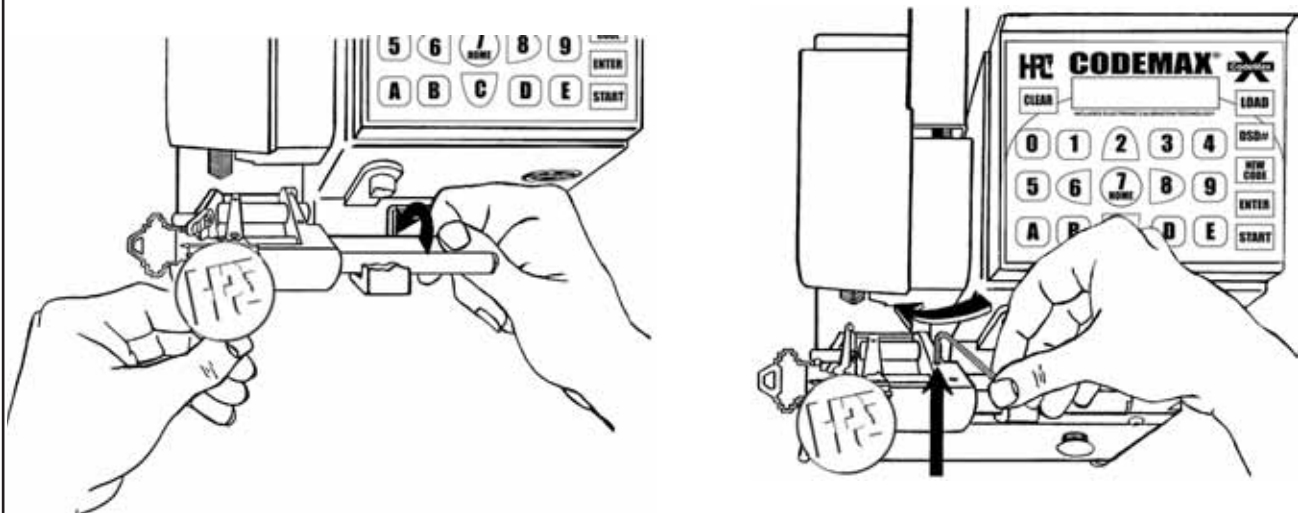

Fig. 2
- 9) Loosen the set screw that holds the Turn Bar in place in the Pivot Arm. See Fig. 2. Swinging the Shoulder Gauge should also rotate the Turn Bar.
- 10) Swing the key Shoulder Gauge down to release the Turn Bar. Then, firmly gripping the right end of the Turn Bar so that it remains stationary, swing the key Shoulder Gauge up against the key. The Shoulder Gauge should be just touching the shoulder of the key. Now, without rotating the Turn Bar anymore, tighten the set screw that holds the Turn Bar (see Fig. 2).